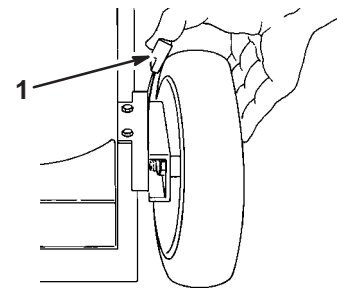

Figure 15
1. To change the cutting height, pull the adjusting lever toward the wheel and move it to the desired position (Fig. 15).